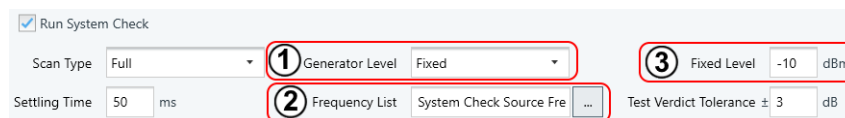

Figure 4-47: Settings 2 and 3 depend on the generator level selection (1)
- "Fixed" allows selecting a frequency list (see 2 in Figure 4-47) together with specifying a fixed generator level (3).
- "LimitLine" allows selecting a frequency list (2) together with specifying a fixed offset (3) from the selected limit line (see below). When you select a limit line, R&S ELEKTRA performs measurements only for ranges that the limit line covers. The level calculation considers only the first detector limit defined in the selected limit line.
- "Normalization" allows selecting a normalization table (2) that contains frequencies and predefined levels at these frequencies.